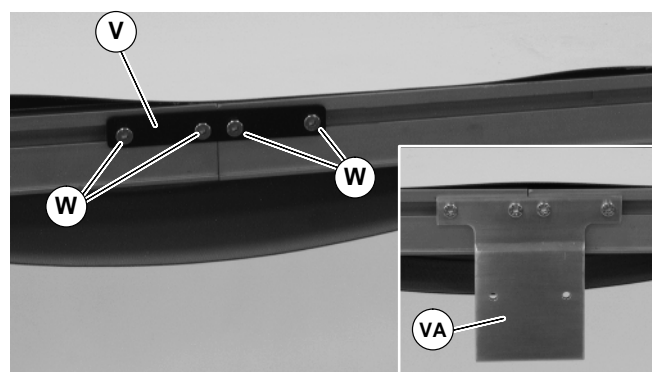

Figure 7
4. Join conveyor sections and install connector brackets (V of Figure 7) or connector/mount brackets (VA) and screws (W) on both sides as indicated. Tighten screws to 7 Nm.